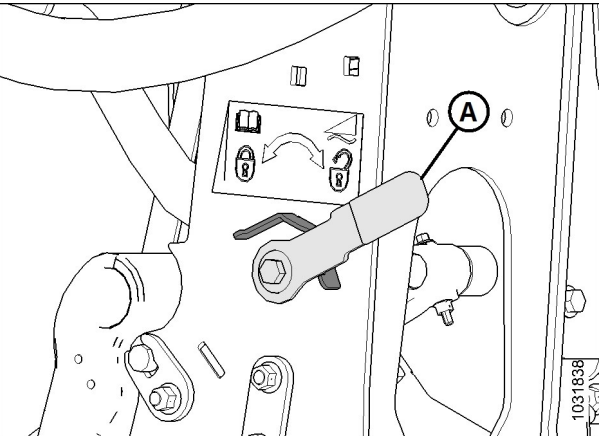
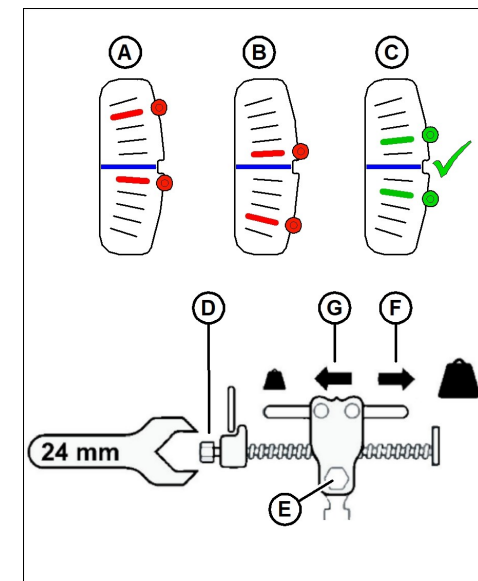

Figure 3: Float Unlocked – Left Side Shown
Figure 10: Wing Balance Adjustment
- On the side that you are adjusting, move spring handle (A) to the lower (UNLOCK) position. Keep the opposite wing locked. You should hear the lock disengage. If not, use multi-tool (B) to rotate the mechanism so that the lock disengages.
- On both sides of the float module, place the header float locks (shown in Figure 3) in the locked position.
- On the flex checker plate, pinch indicators (A) and (B) together with your fingers.
- Use multi-tool (C) to rotate the flex checker plate up until the pin reaches the end of slot. Lower indicator (B) will move down to give the first reading.
- Use multi-tool (C) to rotate the flex checker plate down until the pin reaches the end of the slot. Upper indicator (A) will move up to give the second reading.
- Refer to Figure 10 and interpret the indicator positions as follows: